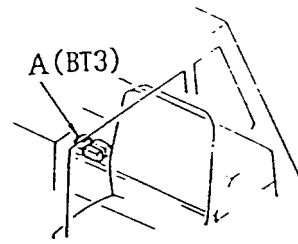
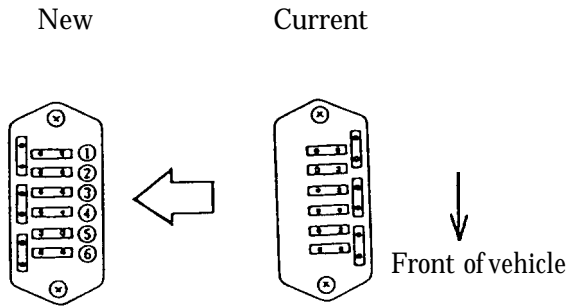

Fig. 1
Fig. 2
- (1) Open the rear cover in the operator's cab.
- (2) Remove the two mounting screws of fuse box A (BT3), and reinstall it inversely (Fig. 1 and Fig. 2).